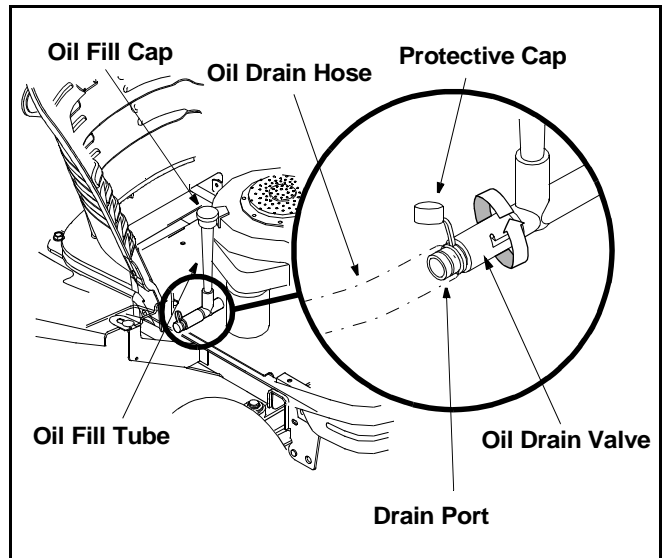

Figure 10
- Unscrew oil fill cap and remove dipstick from the oil fill tube. See Figure 10.
- Pop open the protective cap on the end of the oil drain valve to expose the drain port. See Figure 10.
- Push the oil drain valve in slightly, then rotate counterclockwise and pull outward to begin draining oil. See Figure 10.